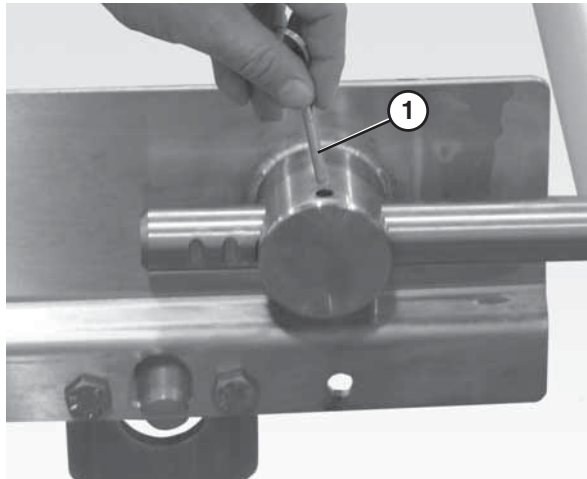

Figure 43
2. Remove the pull pin (**Figure 43, item 1**) on the tension end of the conveyor to release belt tension.